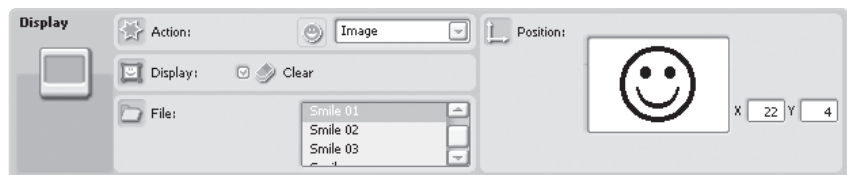

Figure 2-8: The Display block Configuration Panel
5. The block's Configuration Panel should be displayed, as shown in Figure 2-8. Click the block to select it if the Configuration Panel is not showing.